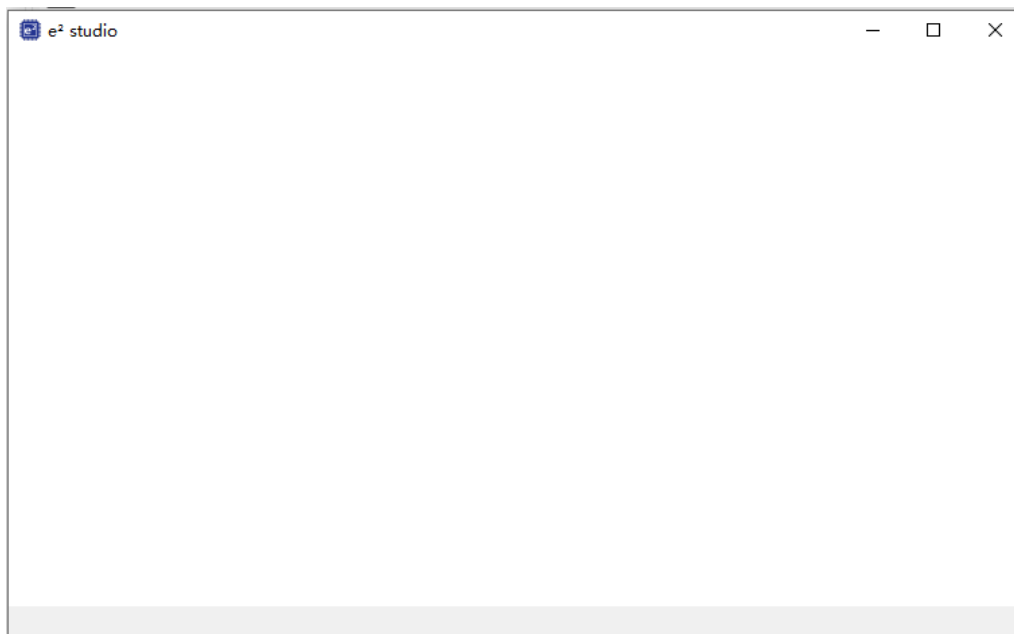
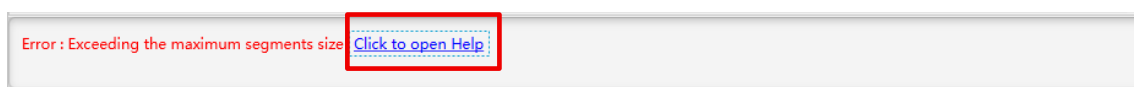
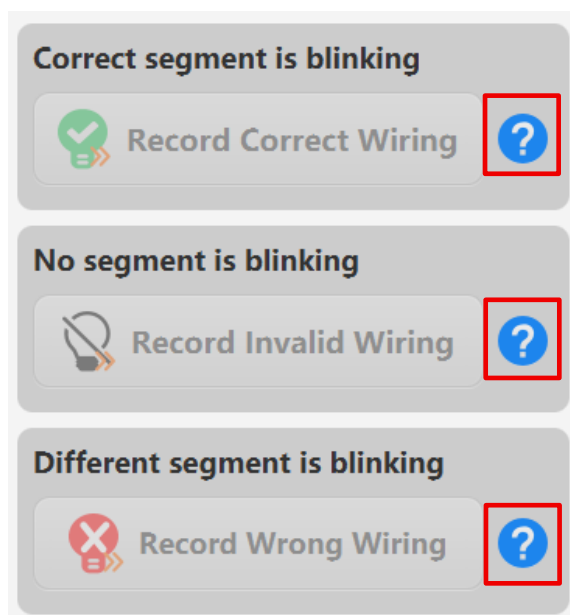

Figure 3-1 Help Content Can't Open Properly
Figure 3-2 “Click to open help” on LCD Setting Dialog
Figure 3-3 Help Icons on Segment LCD Test (QE) View
Case1 : Select "Help -> Help Contents", the help content may not open properly (Figure3-1).
Case2 : Click the "Click to open help" link on LCD Setting dialog (Figure 3-2), the help content may not open properly (Figure3-1).
Case3 : Click the help icons on Segment LCD Test (QE) view (Figure 3-3), the help content may not open properly (Figure3-1).
Case4 : Click the “Click to open help” link on LCD Pattern Design dialog (Figure 3-4), the help content may not open properly (Figure3-1).
Case5 : Click the help button on Show Sample Code dialog (Figure 3-5), the help content may not open properly (Figure3-1).